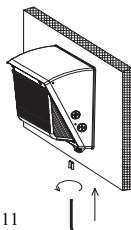

Fig.11
7. Press the fixture close to the installation wall with one hand, lock two screws on the bottom side with allen wrench by another hand to complete fixing. (see Fig 11)